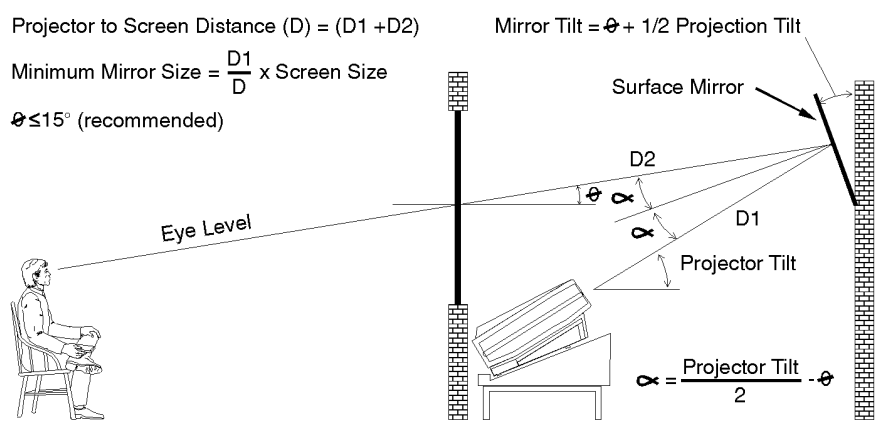

Figure 2-14. *Folded Optics*
In situations where the space behind the projector is limited, a mirror may be used to fold the optical path as illustrated in Figure 2-14. If a diffused screen is used, the projection angle θ should be less than 15°. If an optical screen is used, the optical path between the mirror and the screen should be perpendicular to the screen. Much attention must be given to the positioning of the projector and the mirror. This can be quite difficult for installers unfamiliar with this type of installation. It is recommended that your dealer or an experienced installer perform the installation.
Note: When using a mirror as shown in Figure 2-14, the calculated throw distance (D) is the summation of D1 and D2.